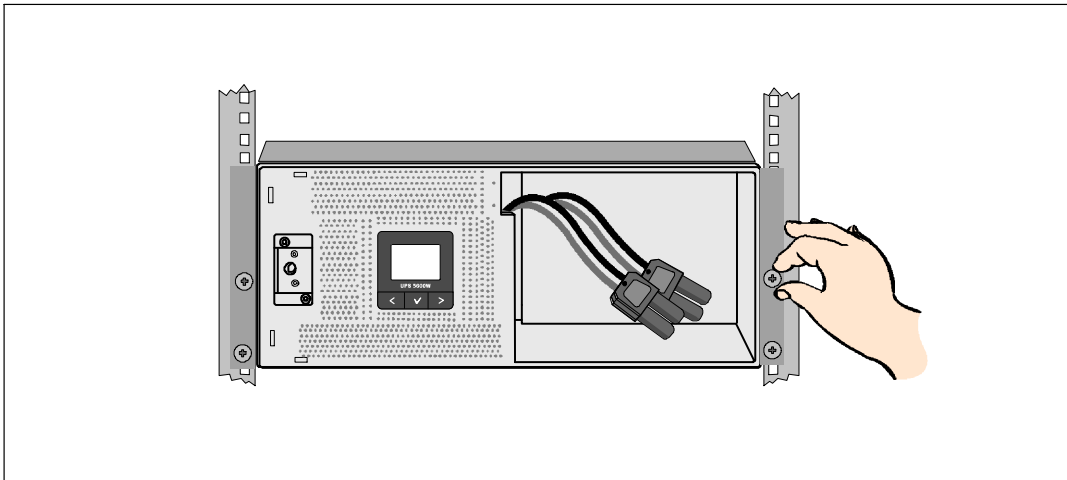

Figure 11. Securing the Cabinet
- 7 Secure the front of the cabinet to the rack using the four thumbscrews on the mounting brackets (see Figure 11). Tighten by hand; do not use power tools. Repeat for any additional cabinets.